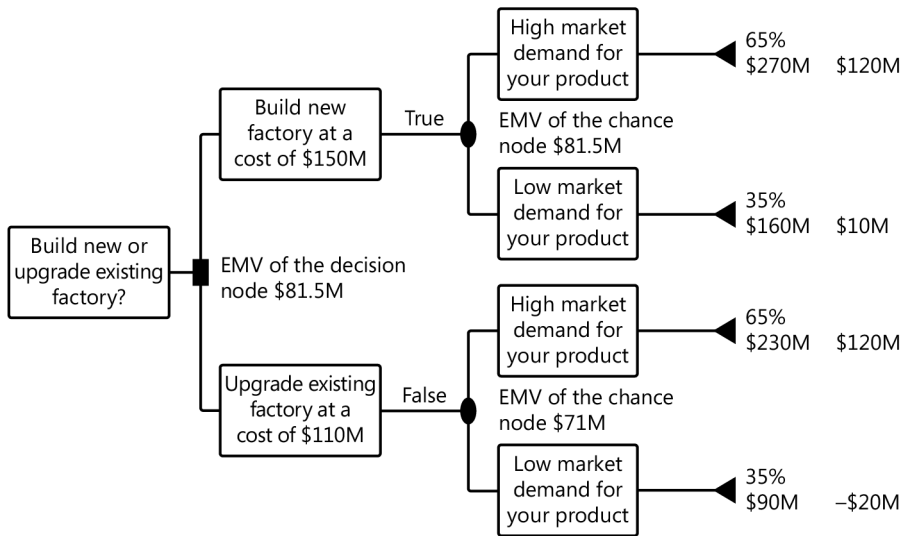

FIGURE 9-10 A decision tree showing the expected monetary value of a new factory versus an upgrade to an existing factory.
3. Consider the decision tree outlining a choice about whether to build a new factory or upgrade an existing factory to take advantage of increased demand for your product. Using expected monetary value analysis, what is the best decision to make? (See the updated decision tree in Figure 9-10.)